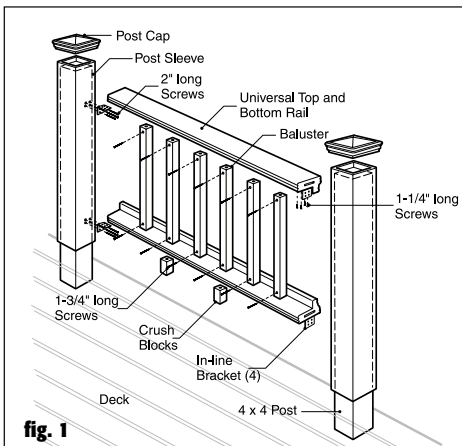

fig. 1
Step 6: Measure the distance between installed post sleeves to determine the length of the top and bottom rails. Trim the top and bottom rails to fit. The vertical legs of the rails face outside the deck (Figure 1).